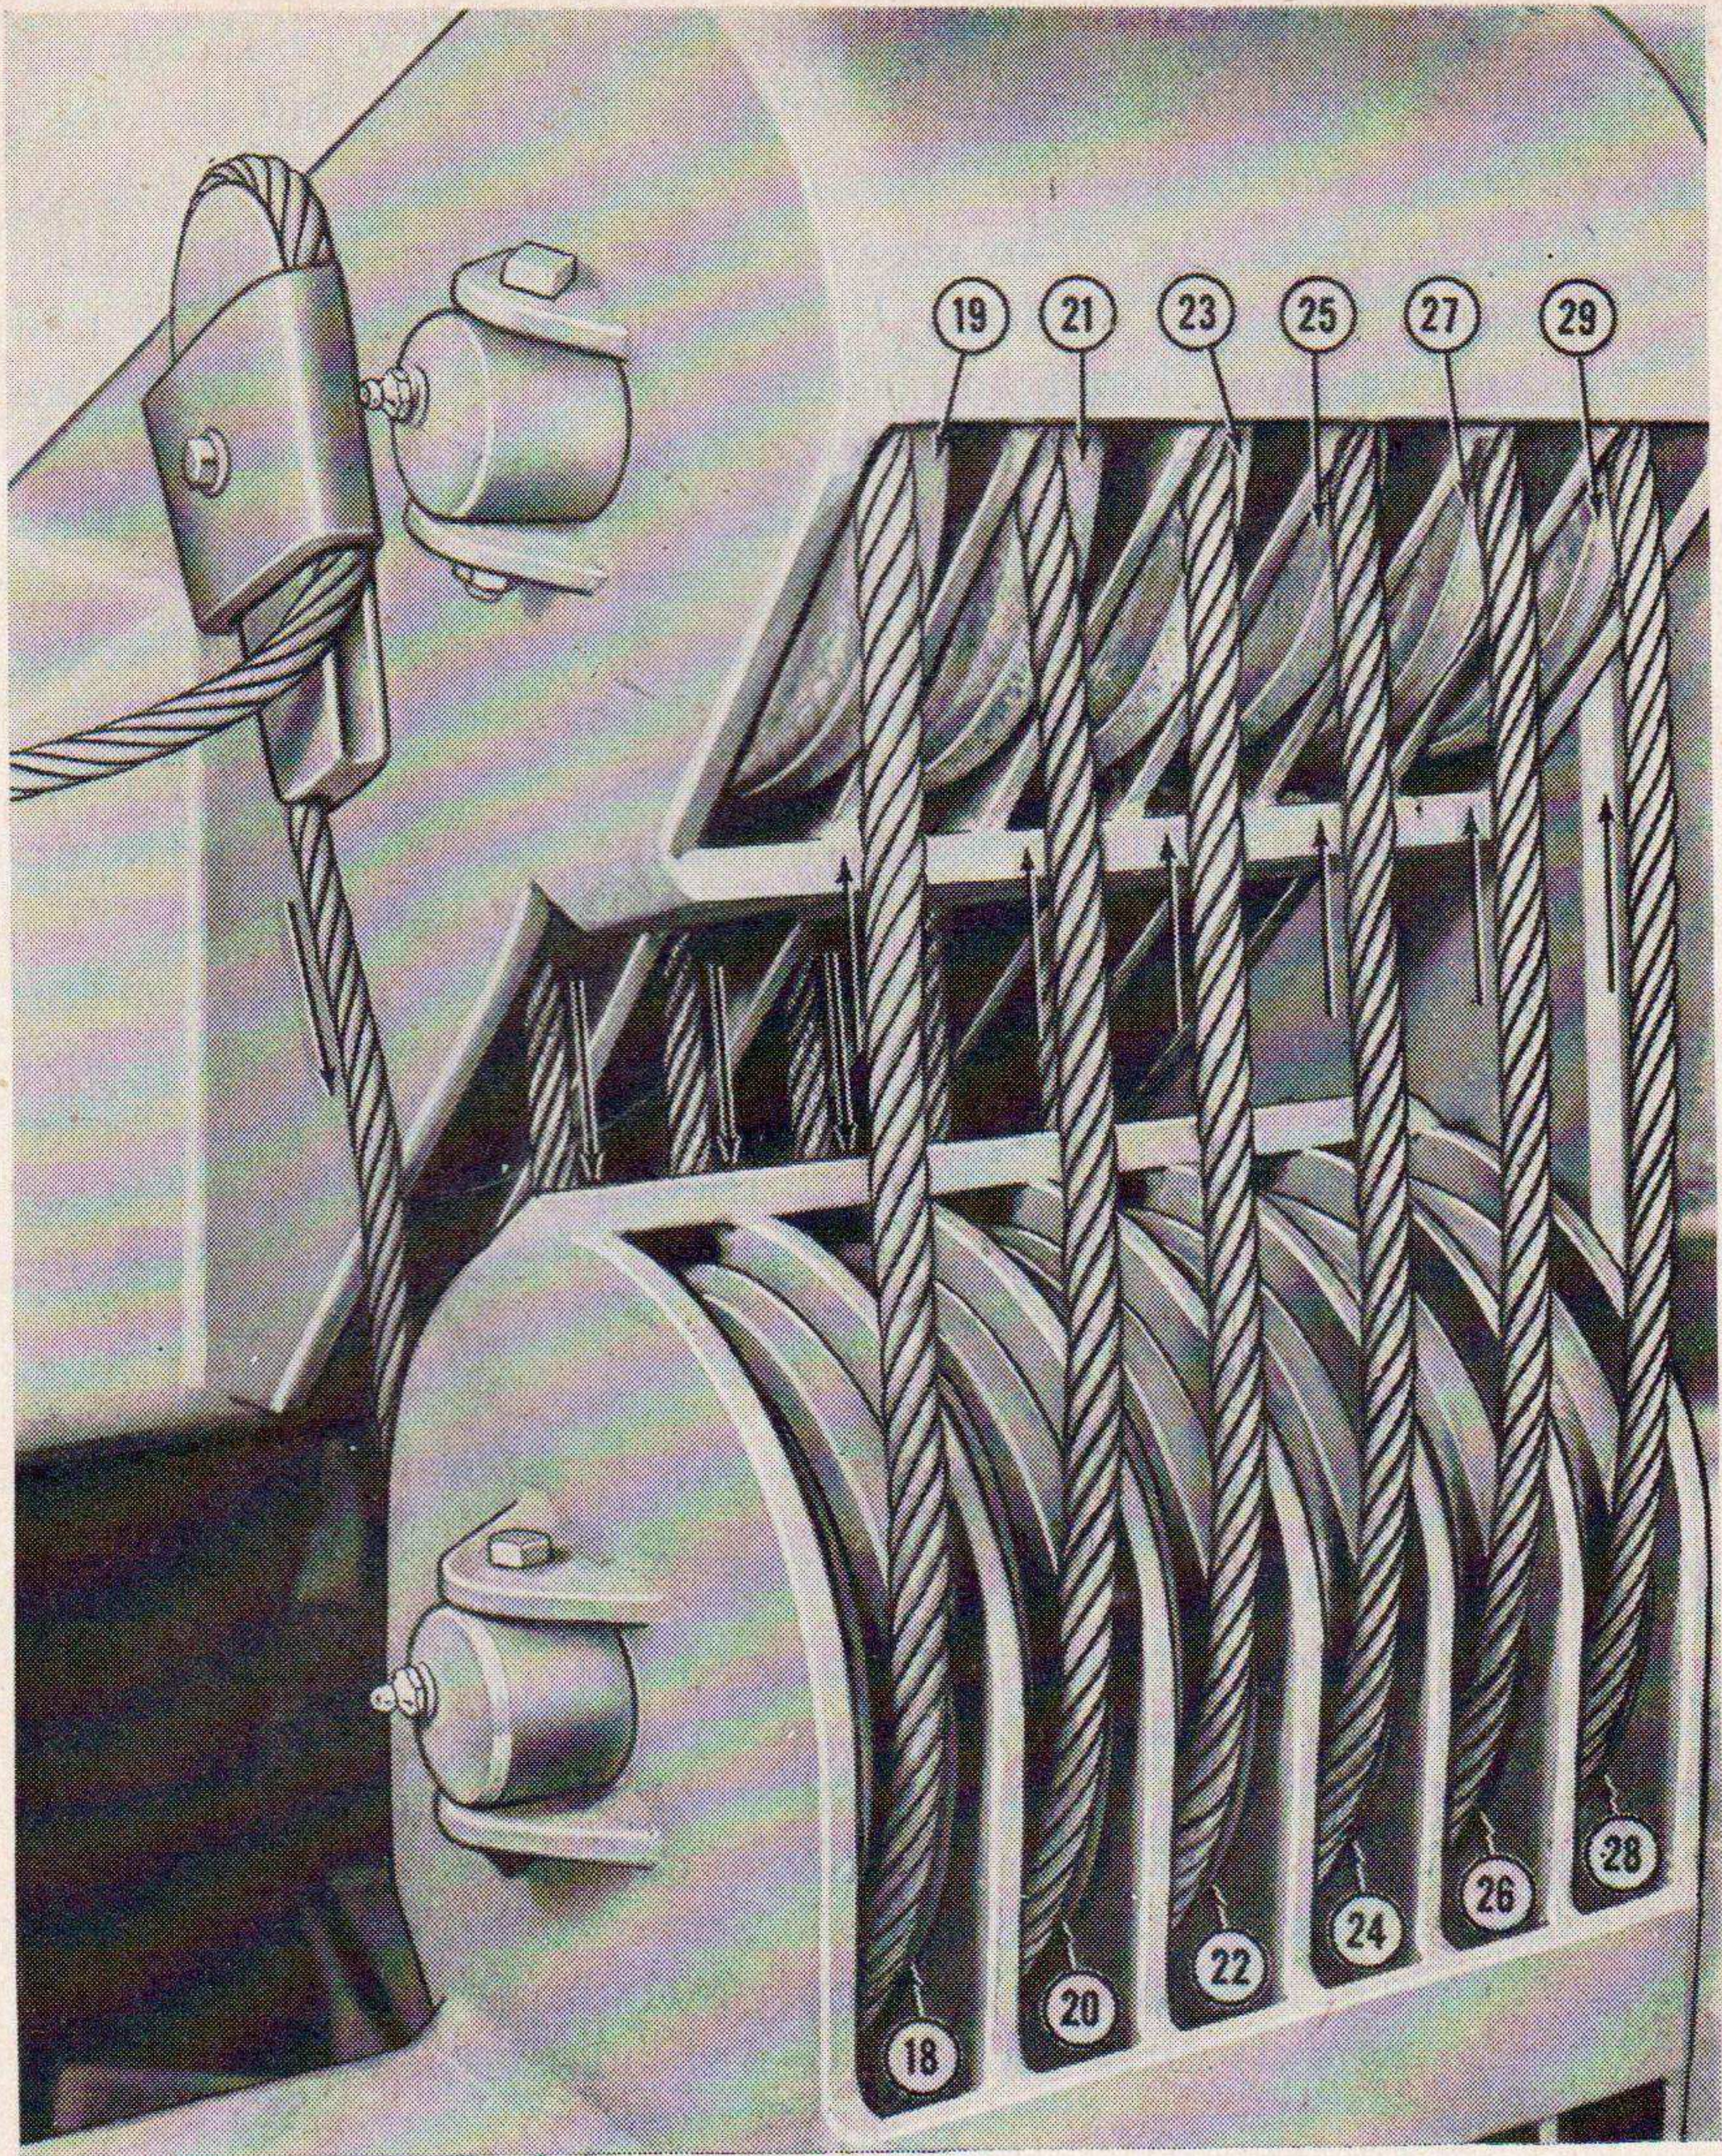

Figure 20. Reeving of lift frame and bowl sheave housings.
- (2) Pass cable under sheave (18, fig. 20) on the bowl in the direction indicated by arrow, over sheave (19) on the lift frame, under sheave (20), over sheave (21), under (22), over (23), under (24), over (25), under (26), over (27), under (28) and over (29).